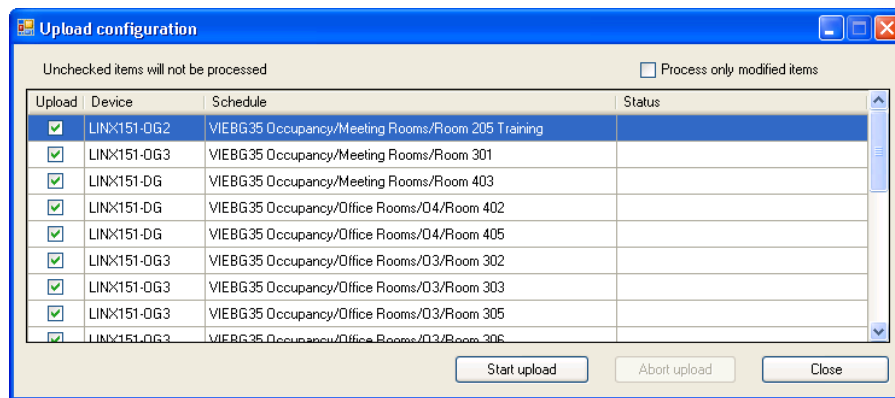

Figure 140: Master Schedule Upload
- The upload dialog is shown in Figure 140. If the checkbox **Process only modified items** is selected, only the schedulers which have been detected as modified will be uploaded. This option is useful to speed up the process if you have a large number of schedulers. However, if schedulers have been changed since the last poll cycle of LWEB-900, these changes will not be taken into account. If the checkbox is not active, all schedulers displayed in the list below will be uploaded. Use this option to get the most current scheduler configuration from the devices.